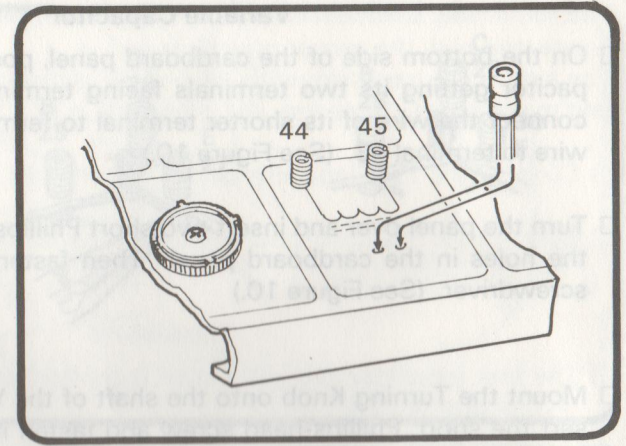

FIGURE 11
- From the top of the cardboard panel, insert the two leads of the Choke Coil through the holes next to its schematic symbol. (See Figure 11.) Then on the bottom side of the panel, connect the leads to terminals 44 and 45.